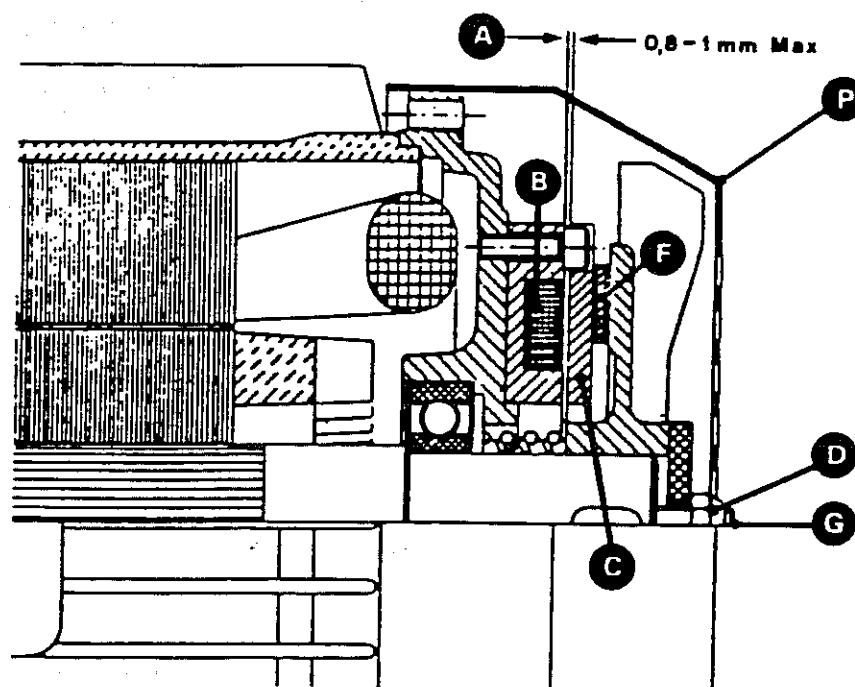

Fig.50
Periodically check and if necessary adjust the braking electromagnetic device (See fig.50)
Distance (A fig.50) between electromagnet (B) and mobile core (C) is called "air gap" and is adjusted during device construction. Adjustment is required only in case of replacement of mobile core (C) having glued to its surface a brake disk of friction material being subject to wear (F).